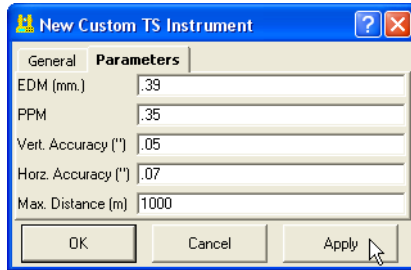

Figure 5-98. New Custom TS Instrument – Parameters
5. Click the **Parameters** tab and enter the *EDM*, *PPM*, vertical and horizontal accuracies, and maximum distance (Figure 5-98).